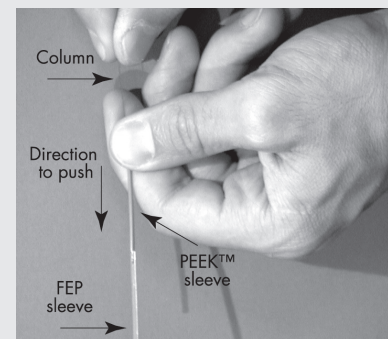

Figure 5.14 Pushing the PEEK™ sleeve against the FEP sleeve
2. Slide the PEEK sleeve toward the tip end until it butts up against the FEP sleeve, as in Figure 5.14.